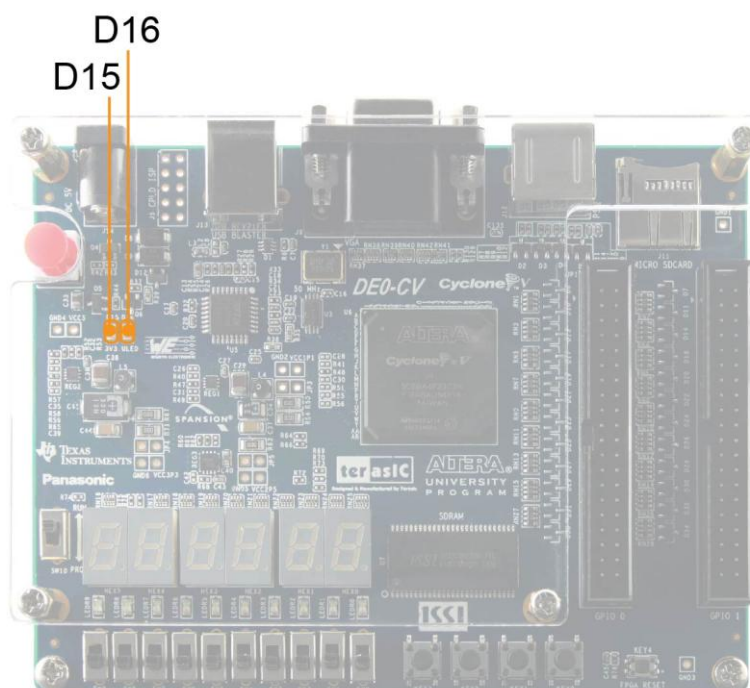

Figure 3-4 Status LED position
- The FPGA development board includes board-specific status LEDs to indicate board status. Please refer to **Table 3-1** for the description of the LED indicator. Please refer to **Figure 3-4** for detailed LED location.